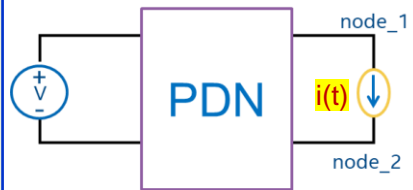
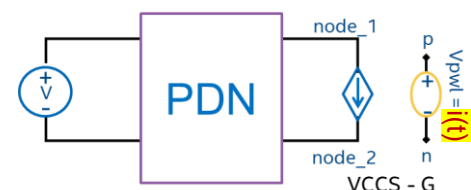

Fig.2 1st order setup
Fig.3 2nd order setup
- In Power Integrity transient simulation with an actual power delivery network (PDN), the i(t) profile shall be connected as shown by Fig.3 through G element with the 2nd Polynomial function for accuracy, other than the 1st order connection as shown in Fig. 2 for efficient analysis.
*Gpoly node1 node2 POLY(2) node1 node2 p n 0 0 0 0 '1/V_{typ}'